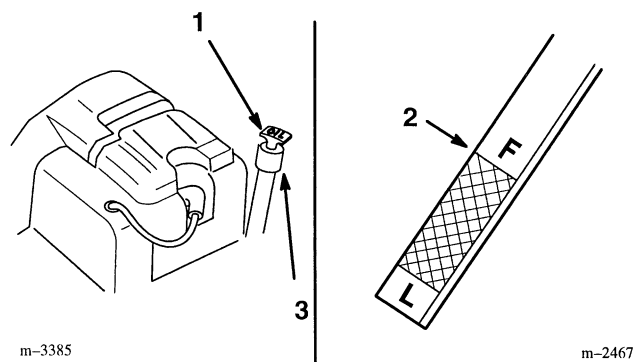

Figure 17
3. Clean around the oil dipstick (Fig. 17) so dirt cannot fall into the filler hole and damage the engine.
4. Pull the oil dipstick out and wipe the metal end clean (Fig. 17).
5. Push the oil dipstick fully into the filler tube (Fig. 17). Pull the dipstick out and look at the metal end. If oil level is low, slowly pour only enough oil into the filler tube to raise the level to the "FULL" mark.
6. Slowly pour approximately 80% of the specified amount of oil into the filler tube (Fig. 17). Now check the oil level; refer to Checking Oil Level, page 19. Slowly add additional oil to bring to "FULL" mark on dipstick.